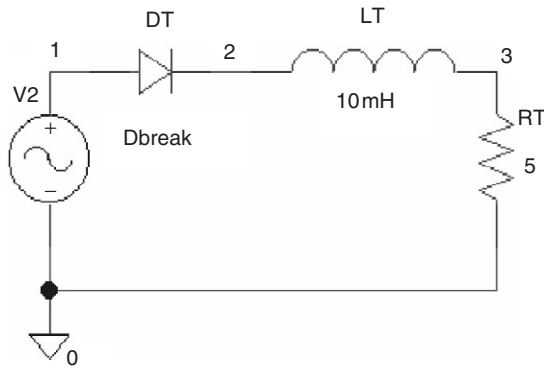

FIGURE 2.14 PSPICE model to study an R-L diode circuit.
**PSPICE Simulation** For simulation using PSPICE, the circuit used is shown in Fig. 2.14. Here the nodes are numbered. The ac source is connected between the nodes 1 and 0. The diode is connected between the nodes 1 and 2 and the inductor links the nodes 2 and 3. The resistor is connected from the node 3 to the reference node, that is, node 0. The circuit diagram is shown in Fig. 2.14.